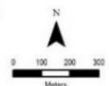

Figure 1: *Phytophthora boodjera* occurrence map (Verified by Southern Ecology in June 2020)
This procedure applies to the FNO and is intended for use by all employees, contractors and visitors to the site. Current occurrence mapping for dieback is shown in Figure 1.
The following steps are applicable to all WSA employees, contractors and consultants travelling into the FNO, or working in bushland with confirmed dieback infestation or identified as at risk from dieback (Figure 1).
- Where possible avoid dieback risk areas as shown in Figure 1 and only use designated roads, footpaths and established tracks to access work areas within the FNO
- Consult FNO Environmental Department prior to entering dieback risk areas as shown in Figure 1.
- 'Clean on exit' applies to any person, machine and/or equipment that has been working within a dieback risk area as shown in Figure 1. More specific controls for exiting dieback risk areas are described below.